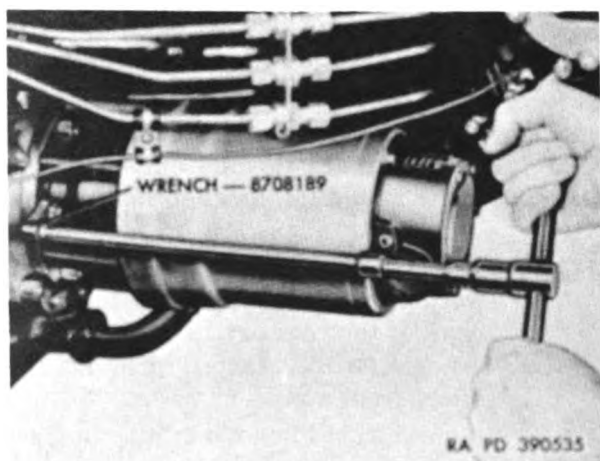

Figure 31. Removing or installing late model Jack and Heintz starter.
- (1) Remove six hex self-locking nuts or hex stamped nuts and hex nuts, and flat washers securing starter to starter drive assembly using wrench 8708189 (fig. 31).
- (2) Remove starter and remove and discard gasket.